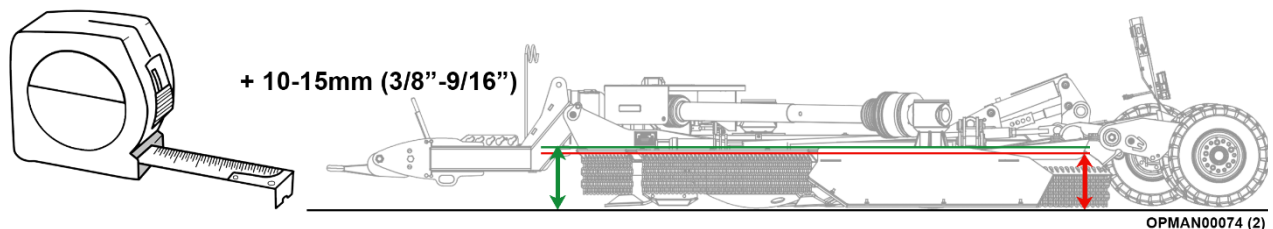

Figure 4.18 – Multicut 480 And Multicut 650 Proline Front To Rear Machine Levelling
- 4.7.1.2 Measure from each end of the top of the hinge bar to the ground; see Figure 4.18 to determine the height of the front and rear of the machine.
NOTE: Keep in mind that the tyres may sink in soft conditions when the machine is in use altering the actual cut height; see Figure 4.18. As a safe precaution, set the cutting height slightly higher on set-up to cater for this sinking. Assess the working area after and then adjust again if required.